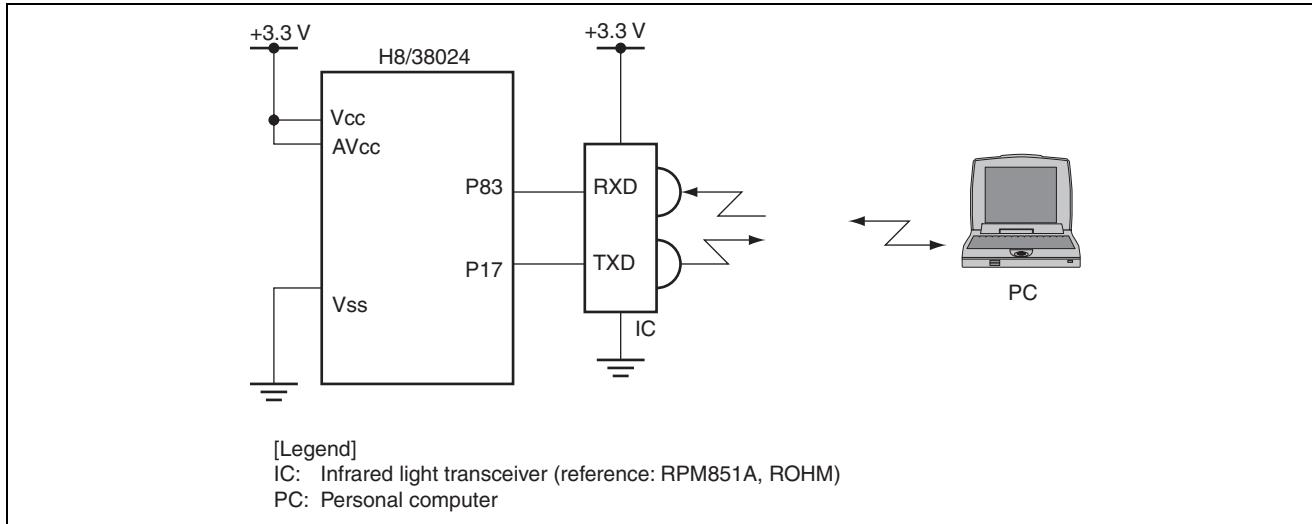

Figure 1.1 Hardware Structure
- Figure 1.1 shows a hardware structure for data reception/transmission using an infrared light transceiver.